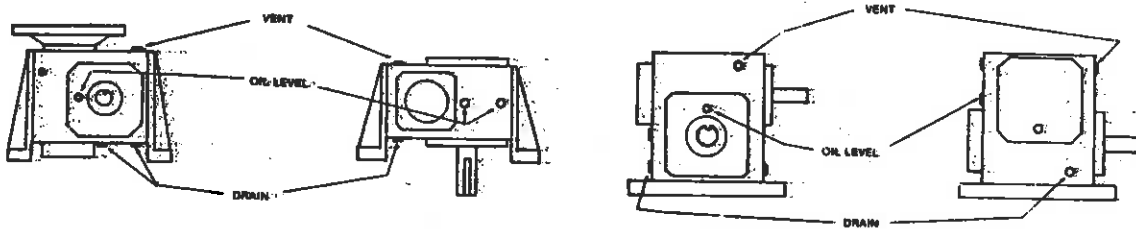

Figure 8: Standard Oil Levels
- C. Fill reducer with the recommended oil to proper level. See Fig. 8 for standard oil levels. (Type of oil recommended — see nameplate).